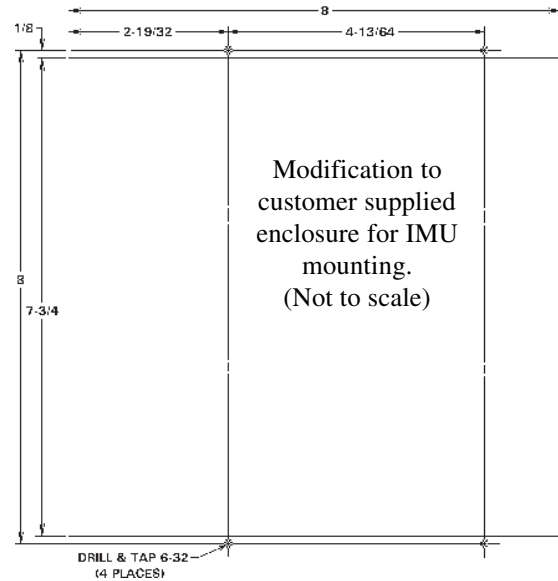

Figure H-2. IMU enclosure modification
1. Modify enclosure to accept IMU per Figure H-2.
2. Mount IMU Assembly to enclosure using four (4) black 6-32 x 1/4 screws supplied in poly bag taped to bottom of IMU.